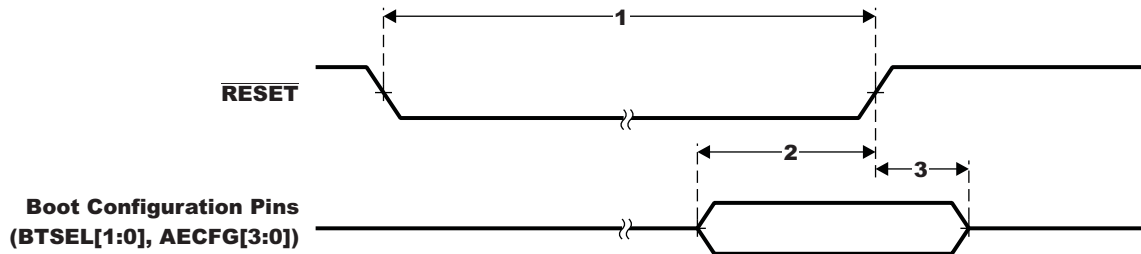

Figure 5-4. Reset Timing
Table 5-2. Timing Requirements for Reset (1)(2) (see Figure 5-4)